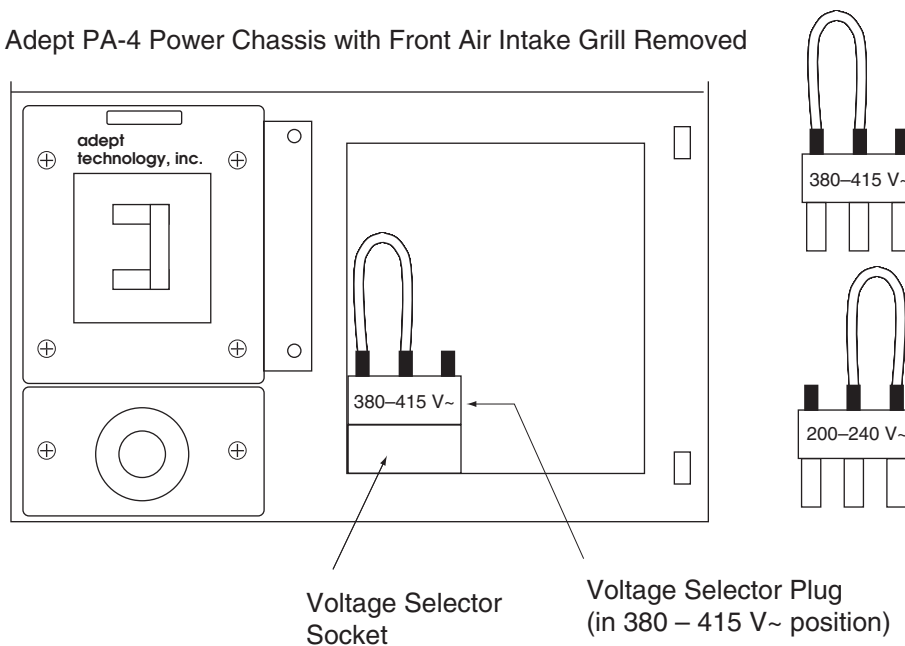

Figure 6-3. Changing Voltage in Power Chassis
2. Inspect the voltage setting; it is marked on the front of the voltage selector plug. To change the voltage setting, remove the selector, rotate it 180 degrees so the required setting is shown, and re-install it. See Figure 6-3.
2. Inspect the voltage setting; it is marked on the front of the voltage selector plug. To change the voltage setting, remove the selector, rotate it 180 degrees so the required setting is shown, and replace it (see Figure 6-3 on page 52).